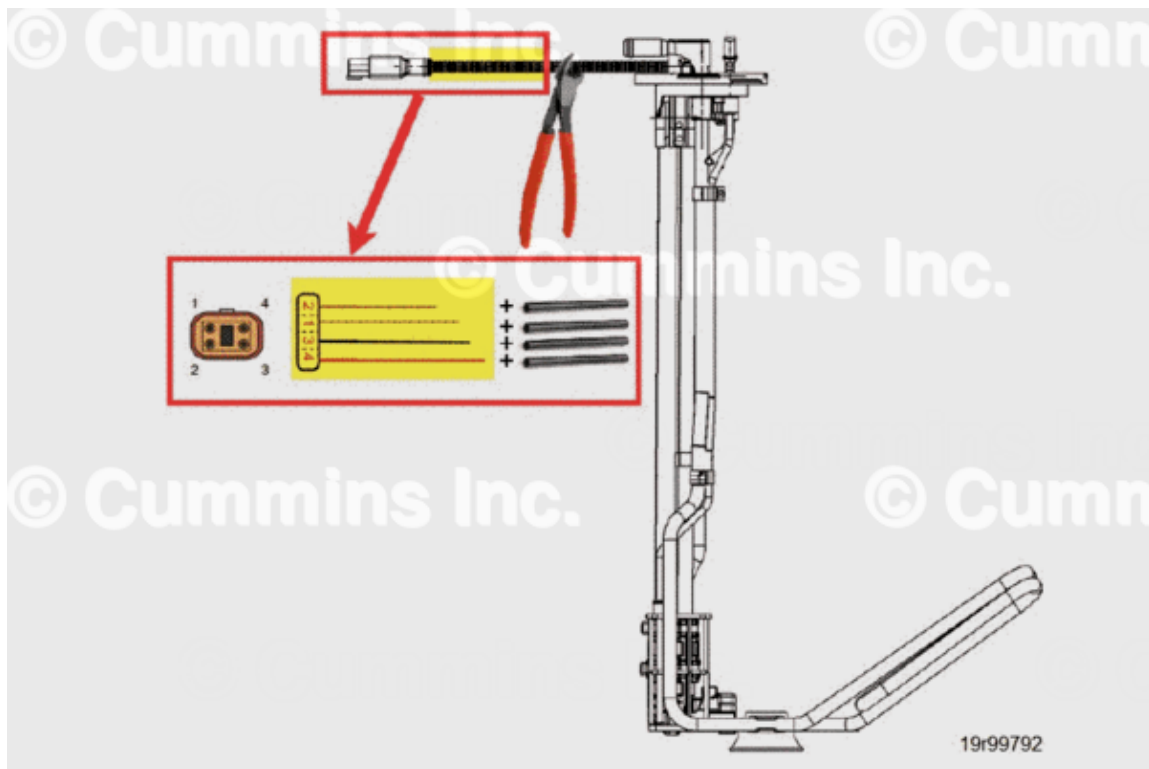

Figure 1, DEF Header Pigtail Harness Cut Location.
3. While the ECM calibration is downloading, use wire cutters to cut the DEF header pigtail harness at least four inches from the connector. See Figure 1 below. Once cut, the pigtail can be moved to